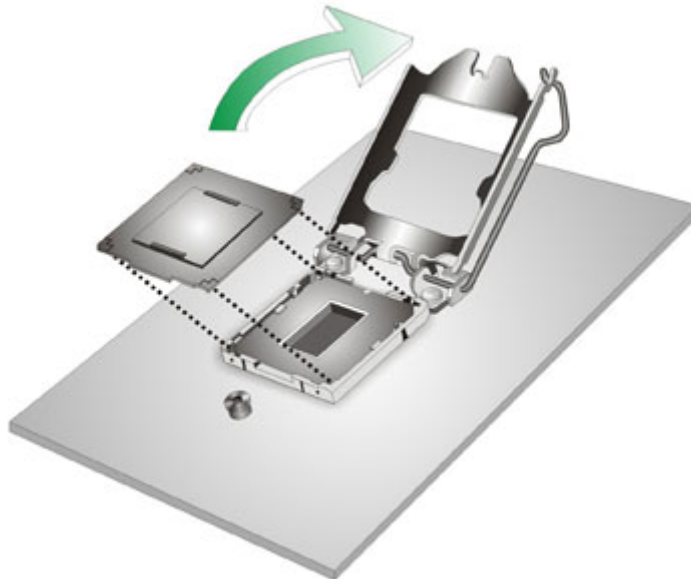

Figure 3-8: Remove Protective Cover
Step 3: Open the socket and remove the protective cover. The black protective cover can be removed by pulling up on the tab labeled "Remove". See Figure 3-8.